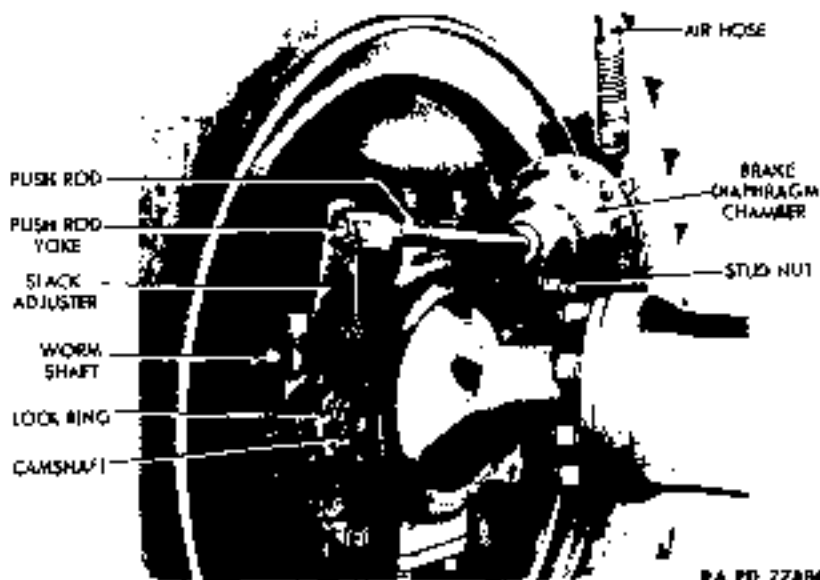

Figure 70 — Front Brake Diaphragm Chamber and Slack Adjuster Installed
(1) **DESCRIPTION** (figs. 70 and 74). One brake diaphragm is attached to vehicle adjacent to each of the four wheels. Diaphragms convert air pressure to mechanical motion in applying brakes. Depressing the brake pedal admits air pressure to each diaphragm chamber, and pressure causes diaphragm motion which is transmitted to brake cam by means of a push rod and slack adjuster. When brake pedal is released, pressure is exhausted from the chamber, and brakes are then released by a spring which returns slack adjuster, push rod, and diaphragm to their original position.
(1) DISCONNECT SLACK ADJUSTER (figs 70 and 74). Remove cotter pin and clevis pin which connect slack adjuster to push rod yoke.
(2) DISCONNECT AIR HOSE (figs. 70 and 74). Screw hose nut from fitting on chamber.
(3) DETACH CHAMBER (figs. 70 and 74). Remove stud nut and lock washer which secures chamber at front wheel brake, or remove the four nuts, lock washers, and bolts which secure chamber at rear wheel brake. Lift chamber from vehicle.
(1) ATTACH CHAMBER (figs. 70 and 74). Position chamber on backing plate or on bracket. Install stud nut which secures chamber at front wheel brake, or the four bolts, lock washers, and nuts which secure chamber at rear wheel brake.
(2) CONNECT AIR HOSE (figs. 70 and 74). Screw air hose to fitting on chamber.
(3) CONNECT SLACK ADJUSTER (figs. 70 and 74). Position slack adjuster to push rod yoke, and secure with the clevis pin and cotter pin.
(4) TEST INSTALLATION. Start engine, and build up pressure to 105 pounds. Test operation of brakes, and inspect chamber hose connection for leaks while brakes are in operation.
(1) **DESCRIPTION** (figs. 70 and 74). One slack adjuster fits on the spline on the shaft of each brake cam. These are special levers which connect the brake diaphragm chamber push rods to the brake camshafts.
(5) **ADJUST BRAKES AND RECORD PUSH ROD TRAVEL (FIRST ADJUSTMENT ONLY)** (figs. 70 and 74). Jack up each wheel, and turn slack adjuster worm shaft until brake shoes are tight against drum. Back off worm shaft until wheel is free, and insert feeler gage between toe-end of shoe and drum. Turn worm shaft until 0.008- to 0.010-inch clearance is obtained; then apply brakes, and measure brake diaphragm push rod travel. Record measurement for future use in checking (step (2) above) and adjusting (step (6) below) brakes. **NOTE:** *If adjustment is correct, push rod travel will be same for both wheels on an axle. Dimensions will be about  $\frac{1}{8}$  inch on front brakes and about  $\frac{1}{8}$  inch on rear brakes.*
(6) **ADJUST BRAKES (ALL SUBSEQUENT ADJUSTMENTS)** (figs. 70 and 74). Turn slack adjuster worm shaft until brake diaphragm cham-
c. **Removal** (figs. 70 and 74). Use a pointed instrument to mark relative positions of slack adjuster and camshaft. Remove cotter pin and clevis pin which secure push rod to slack adjuster. On front slack adjuster, pry lock ring from brake camshaft. On rear slack adjuster, remove attaching screw and special lock washer. Tap adjuster from shaft.
d. **Installation** (figs. 70 and 74). Position slack adjuster on protruding end of brake camshaft as originally installed, and note marks made before removal. On front of slack adjuster, pry lock ring into position at end of shaft. On rear slack adjuster, install special lock washer and attaching screw. Position push rod yoke to slack adjuster, and install clevis pin and cotter pin which attach rod and adjuster.